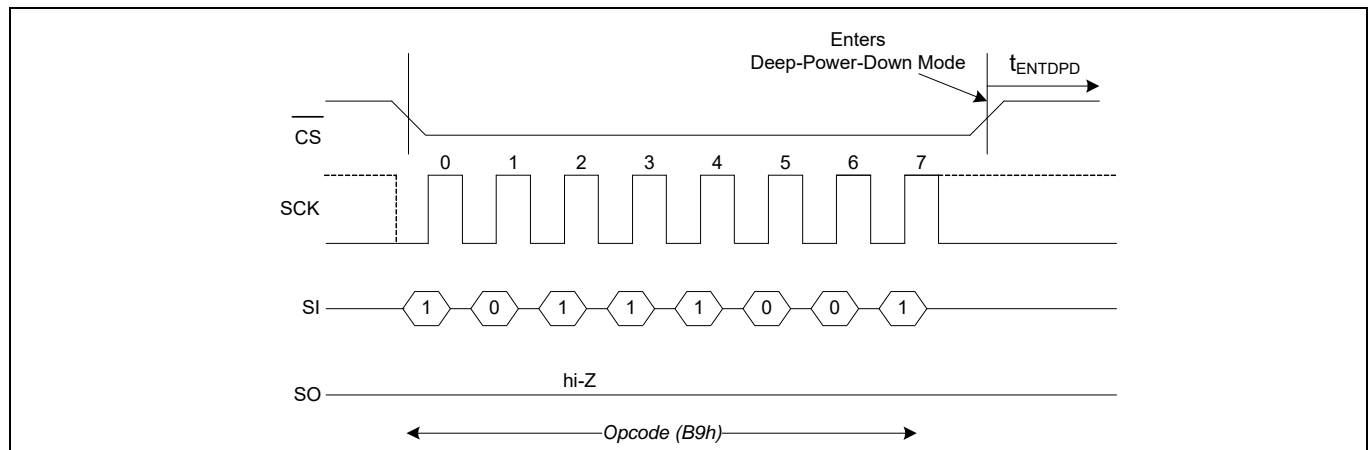
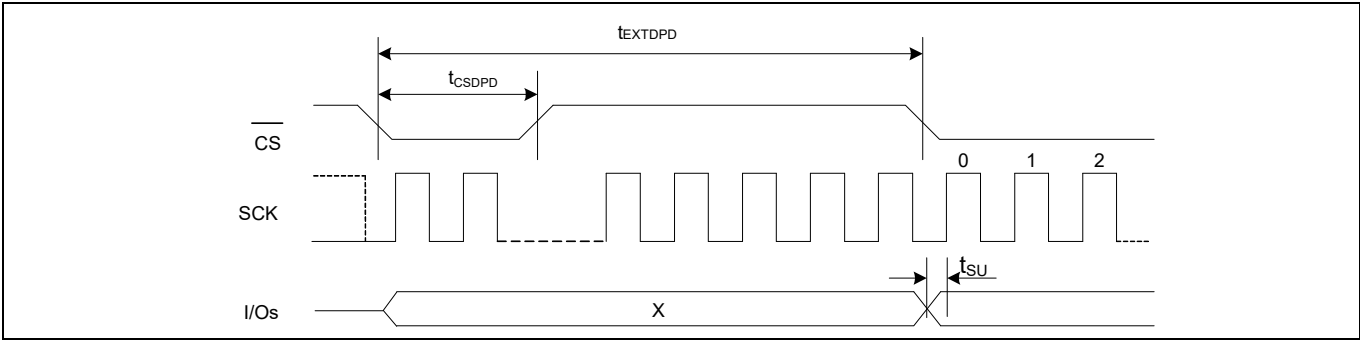

Figure 99 DPD entry in SPI mode
Figure 102 DPD exit in SPI mode
A \overline{CS} pulse-width of t_{CSDPD} or hardware reset exits the DPD mode after t_{EXTDPD} time. The \overline{CS} pulse-width can be generated either by sending a dummy command cycle or toggling \overline{CS} alone while SCK and I/Os are don't care. The I/Os remain in hi-Z state during the wakeup from deep power down. Refer to Figure 99 for DPD entry and Figure 102 for DPD exit timing.
- The timing details shown in the Figure 99 are applicable as is in DPI and QPI modes.